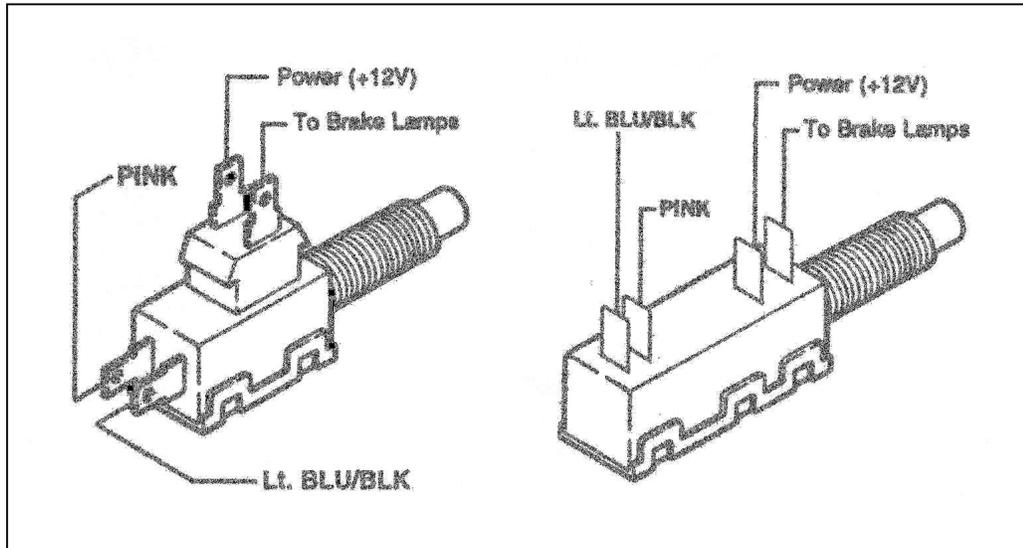

Figure 6.3 Brake Switches
- G. If you are using the recommended brake switch then you will wire it according to **Figure 6.3**. The Pnk wire will connect to one terminal and the Lt.Blu/Blk wire will connect to the other.